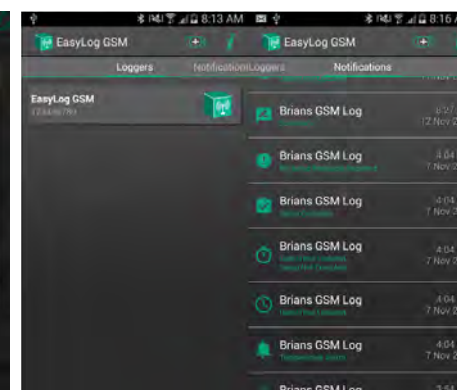

Fig. 11
7. Viewing notifications – From the home page swipe left or tap “Notifications” to view the notification list (See Figs. 11 and 12).